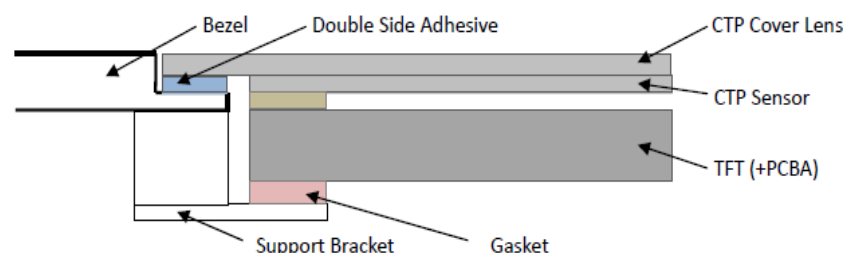

Figure 2
6.2 Surface Mounting (Figure 2)
6.2 嵌入安装 (附图2)